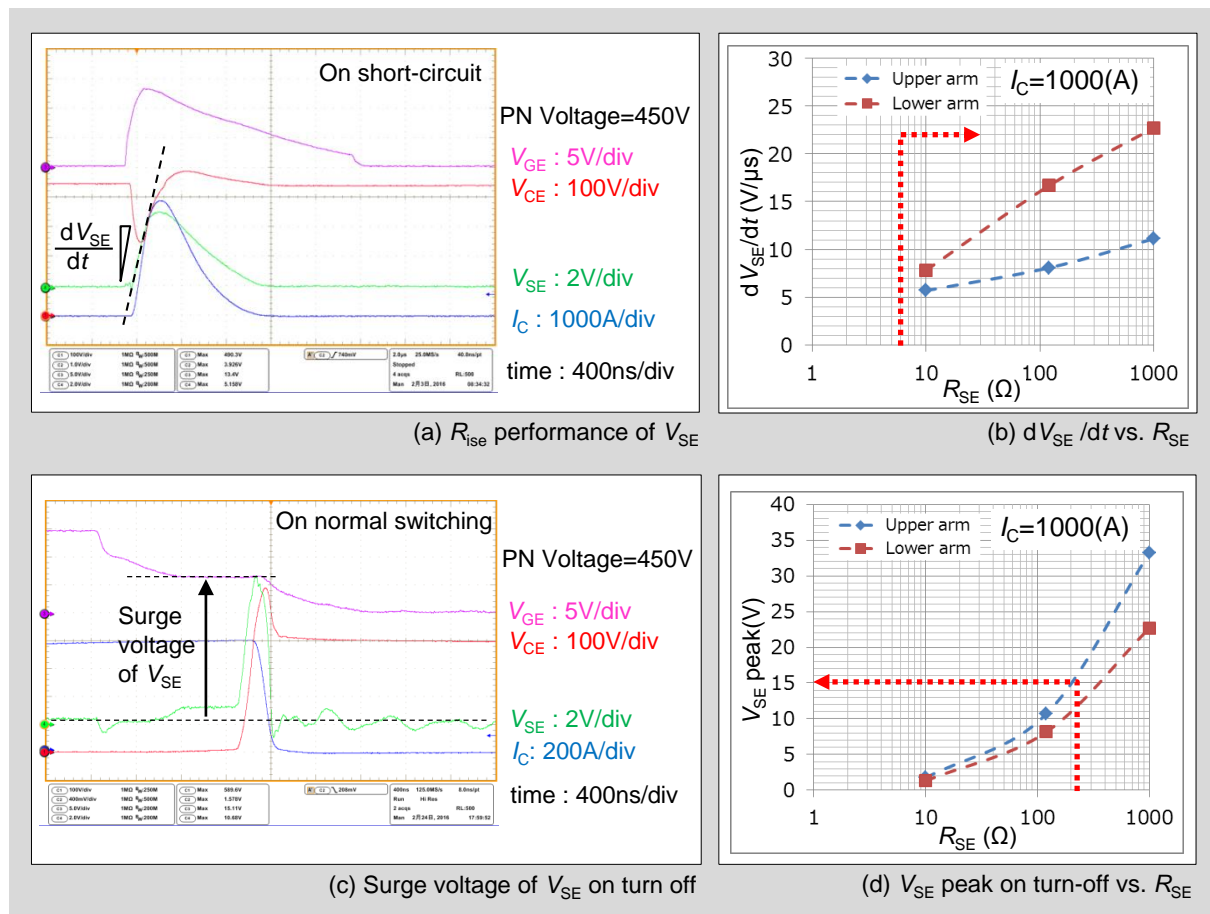

Fig. 8-3 V_{SE} performance
As shown in Fig. 8-3(a), steeper dV_{SE}/dt is needed for high speed SC protection, and dV_{SE}/dt tends to increase as R_{SE} value increasing shown in Fig. 8-3(b).
- 2) On the other hand, when R_{SE} is much higher value, the SC protection circuit and/or IC might be broken down due to turn-off surge voltage of V_{SE} , Fig. 8-3(c).
The V_{SE} on turn-off depends on R_{SE} , Fig. 8-3(d)
This V_{SE} value is the peak value of the V_{SE} waveform at the short circuit shown in Fig. 8-3(a).